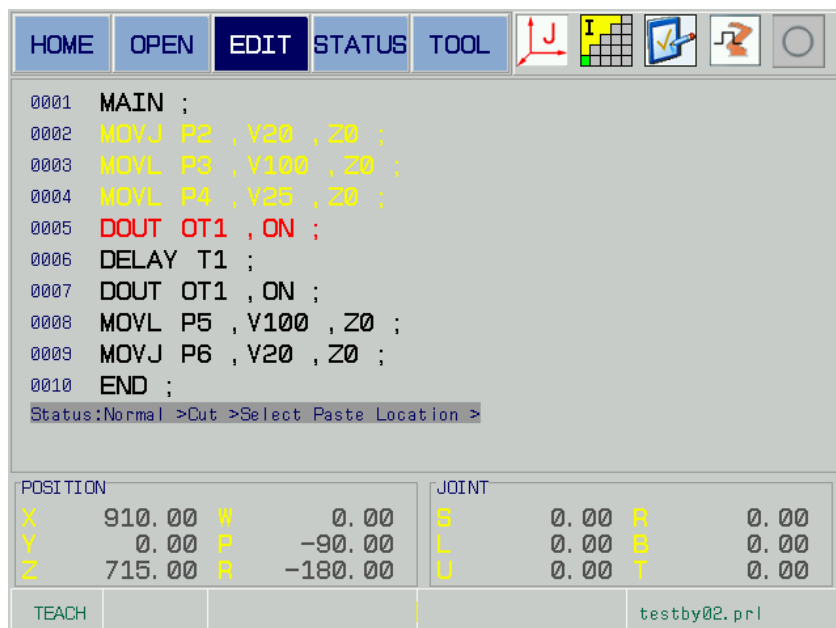

Fig. 5-40
3. Press the [CUT] before selecting the cutting area, in this case, the “Select Paste Location” prompts at the bottom of the page; move the cursor to the previous line of the eventual position to be pasted, for example, cut the 2nd, 3rd, and the 4th line program and place to the back of the 5th line; refer to the Fig. 5-40